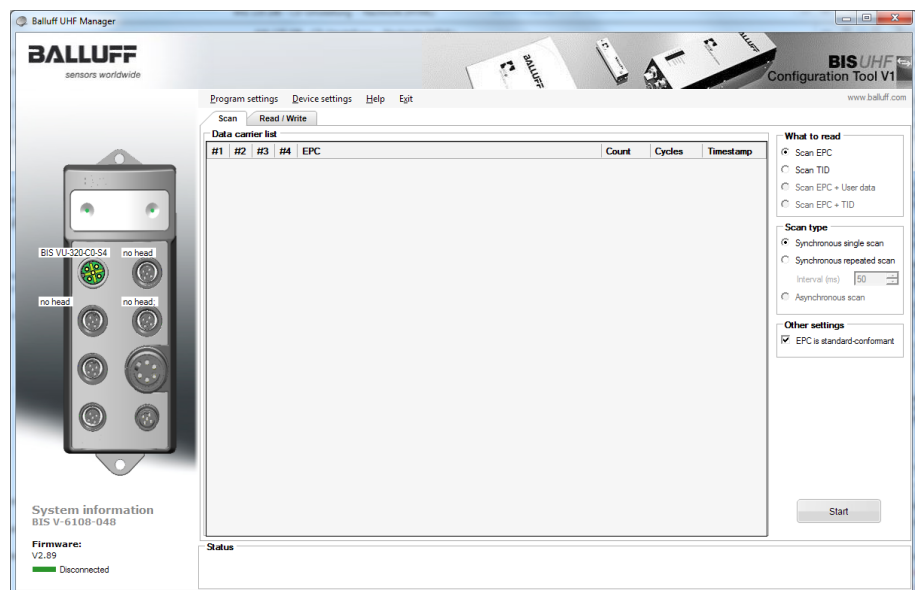

Figure 7: Main window
- Currently selected read/write head (part of the currently selected read/write head is highlighted in green, see „Figure 7: Main window“)